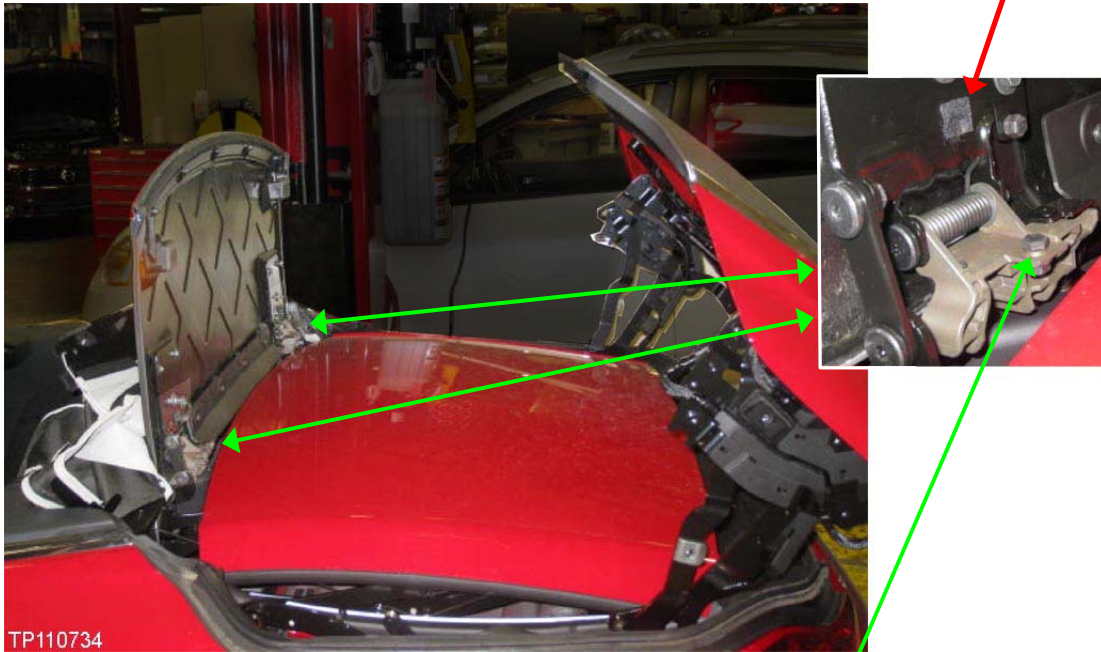

Figure 41
41. Next, close the trunk lid, open the hard top as shown in Figure 41, and then inspect for felt cloth.
- If felt cloth is not found, cut two 15 mm x 15 mm pieces from the 3 mm sheet, and then apply on the parcel shelf finisher board where the adjusting bolts come in contact (one on each side). See Figure 41.
42. Locate the two adjusting bolts, and adjust the bolt heads to approximately 5.5 mm (0.20 inches). See Figure 41 and 42.